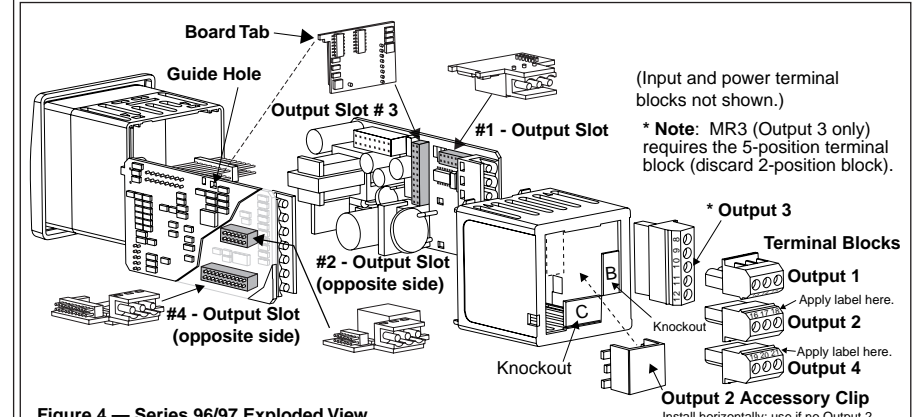

Figure 4 — Series 96/97 Exploded View
- If applicable, remove Knockout B or C (see Figure 4) for the output pins at the back of the case, and... install the five-pin terminal block for MR3 in Output 3; discard the two-pin terminal block. (See the Power and Output 3 wiring instructions in the Series 96 or 97 User's Manual, Chapter 3.)
- If empty, the Output 2 slot requires the Accessory Clip. (See Fig. 4.) Seat the clip legs on the left first, then seat the right legs with a small screw-driver; the clip will snap flush.
- Update the unit's model number and wiring information label (on the left side of the unit as you face it) by covering the old wiring information and model number with the small labels supplied in the module kit. (See Figure 5.) Position the labels with a small screwdriver. Apply labels to the new terminal blocks also. (See Figure 4.)